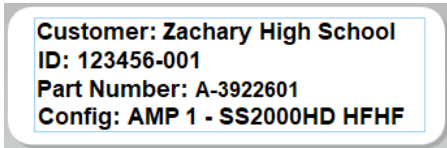

Figure 26: Amp Label
3. Verify the new amplifier is the correct replacement for the defective amplifier. Check the label (**Figure 26**) on the new amplifier to verify that the **Part Number** matches the table below and that the **Config** matches the label on the defective amplifier.